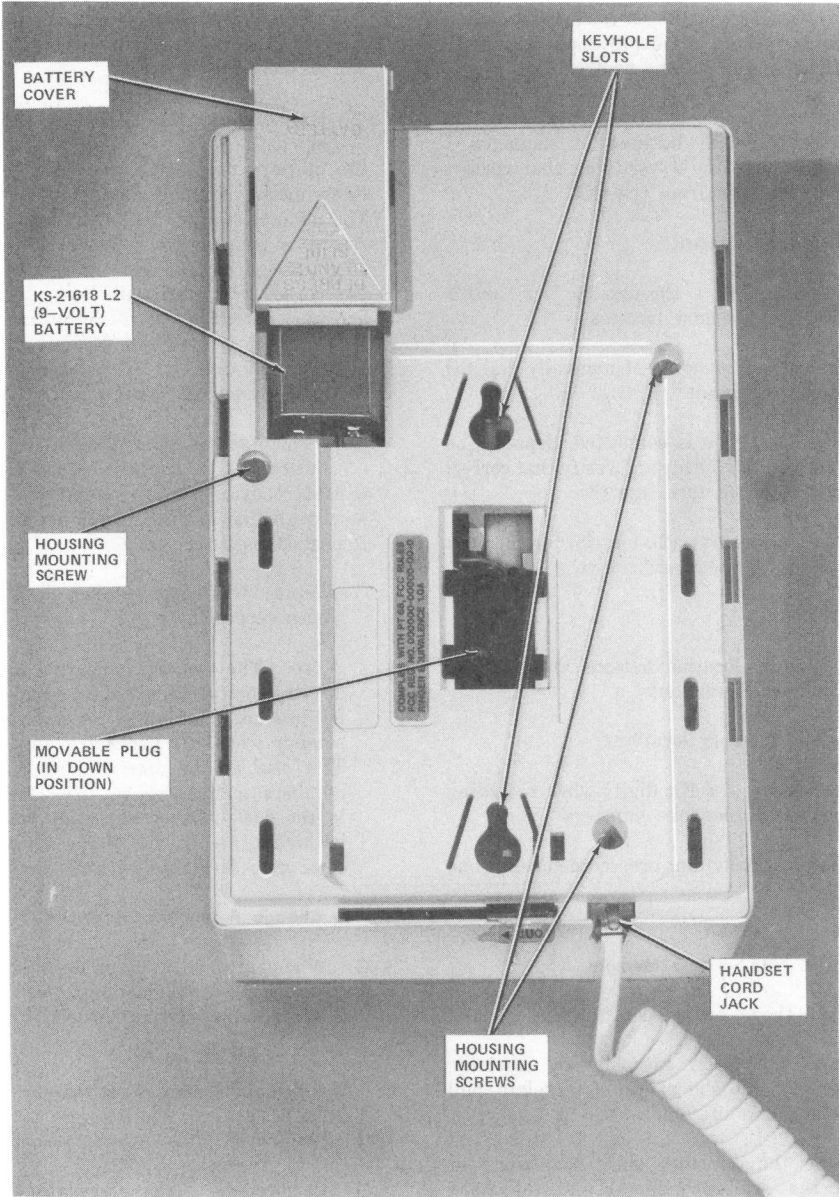

Fig. 3—5011T01A Telephone Set, Bottom View
3.01 The telephone set is shipped with a 9-volt alkaline battery, to be connected at the time of installation. Remove the battery cover on the rear of the set and make the necessary connections. Place the battery in the battery compartment and close the cover (Fig. 3).
3.03 The rear of the set is recessed with two keyhole type slots (Fig. 3). Be sure the movable plug is in the down position as shown in Fig. 3. Align the keyhole slots with the mounting studs on the 630-type connecting block. Push the set in and down engaging the set to the connecting block. Connect the handset cord to the set.